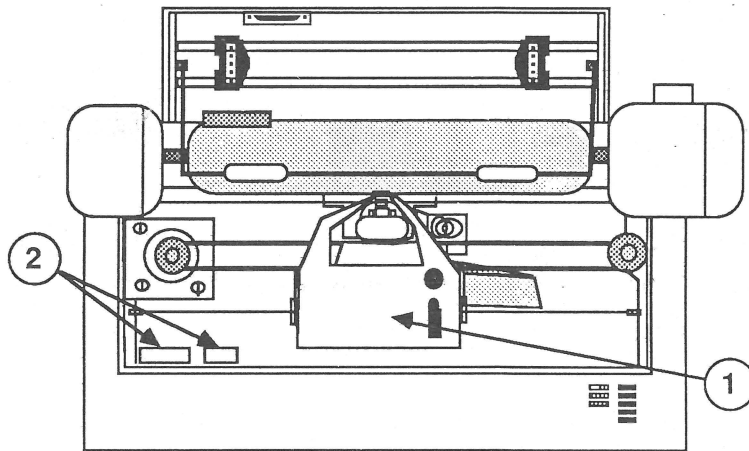

FIGURE 6
3. Slide the carrier all the way to the right (Figure 6, #1).
4. Locate switches SW 1 and SW 2 (Figure 6, #2).